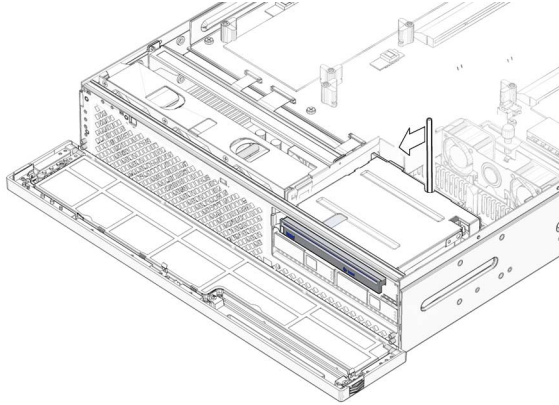

FIGURE 3-13 Inserting the Probe at the Back of the DVD Drive
2. Insert a small plastic probe into the opening at the back of the DVD drive (FIGURE 3-13).